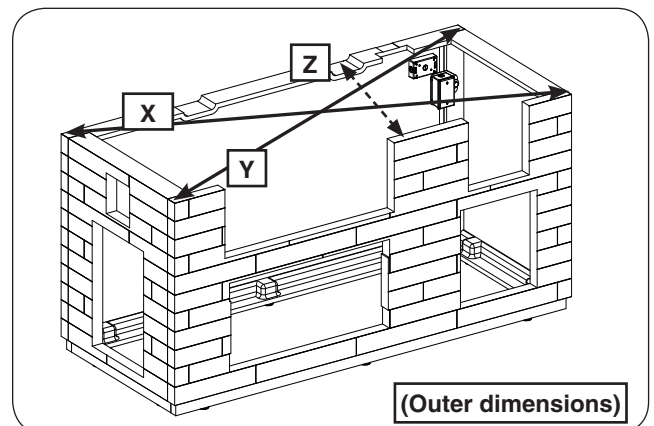

Fig. 8-3 Square unit (then tighten all bolts)
- a. Measure the X outer dimension, see Fig. 8-3. It should be approximately  $81\ 1/2$ ".
- b. Measure the Y outer dimension, see Fig. 8-3. Carefully adjust the walls as needed to ensure the X & Y dimensions are equal. (The final dimension may slightly vary from that mentioned in step a.)
- c. Measure the Z outer dimension, see Fig. 8-3. It should be approximately 32".